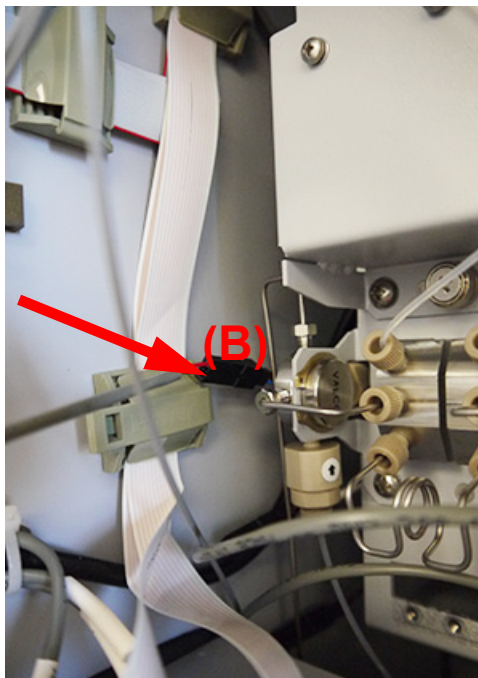

Figure 82: Jumper Cable Connection for ICR Pump
5. Reconnect the ICR pump jumper cable (B), (Figure 82).